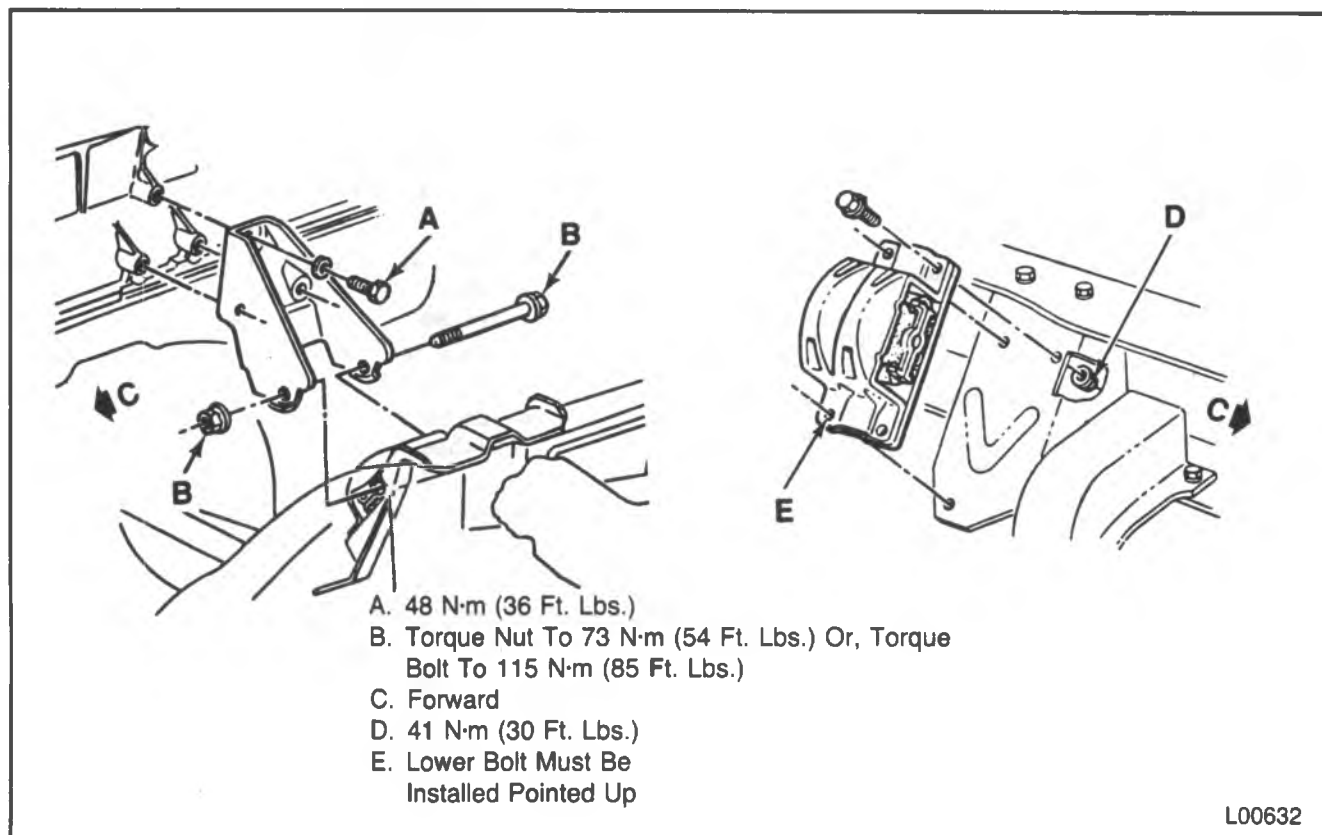

Figure 41 — Front Engine Mounting Brackets
Remove or Disconnect (Figures 41, 42 and 44)
Install or Connect (Figures 41, 42 and 44)
- Fasteners to specifications. Refer to figures 41, 42 and 44.
- Through-bolt or nut to specifications. Refer to figures 41 and 42.
↔ Install or Connect (Figures 41, 42 and 44)
- Fasteners to specifications. Refer to figure 41.